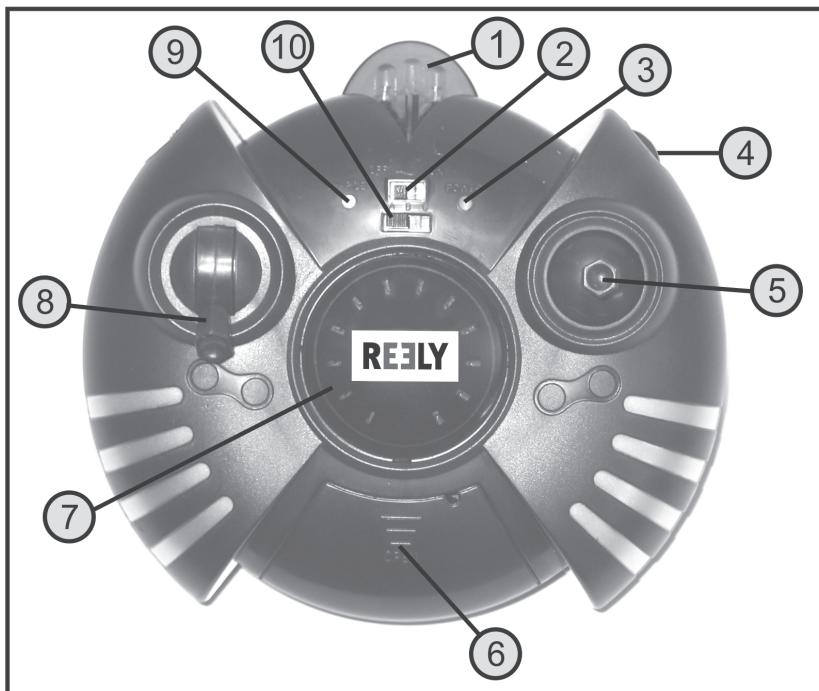

Figure 1
Slide the function switch (see figure 1, item 2) from the left position "OFF" to the right position "ON".
If you move the control lever for the pitch function (see figure 1, item 8) upwards, the 3 LEDs in the lower left of the LED display ring (3) will start to flash.
Slide the charging cable duct cover (see figure 1, item 6) open downwards and remove the charging cable (1) from the transmitter.
Then switch on the transmitter. The charger LED (see fig. 1, item 9) and the power LED (see fig. 1, item 3) will light up.